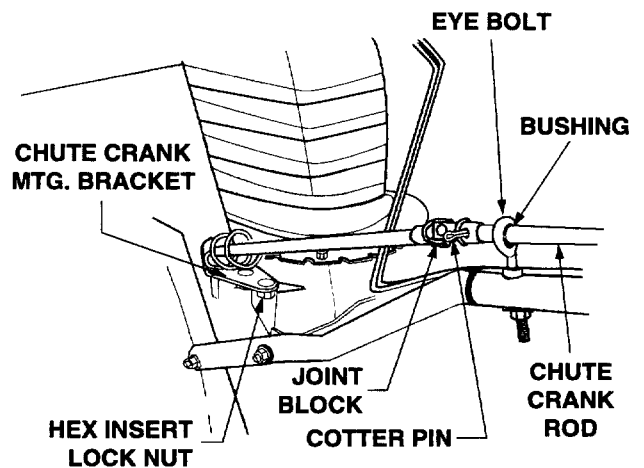
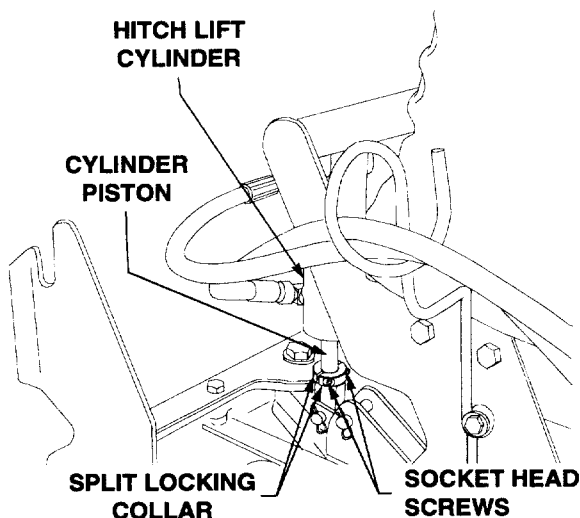

Figure 8
Figure 9
10. Insert the chute crank rod (E) into the sleeve of the joint block on the chute crank assembly (F). Align the holes and secure the rod with the cotter pin (10). See Figure 8.
11. Adjust the chute crank mtg. bracket (F) so the spiral of the chute crank fully engages the teeth of the discharge chute, but still allows the chute crank rod (E) to be easily turned, then tighten the hex insert lock nuts (8). Refer to Figure 8.
12. Remove the two socket hd. screws from the split locking collar assembly (15).
13. Install the split locking collar onto the bottom of the piston of the front hitch lift cylinder and secure with the two socket hd. screws (See Figure 9). *NOTE: It may be necessary to use the tractor hydraulic system to slightly extend the cylinder piston.*